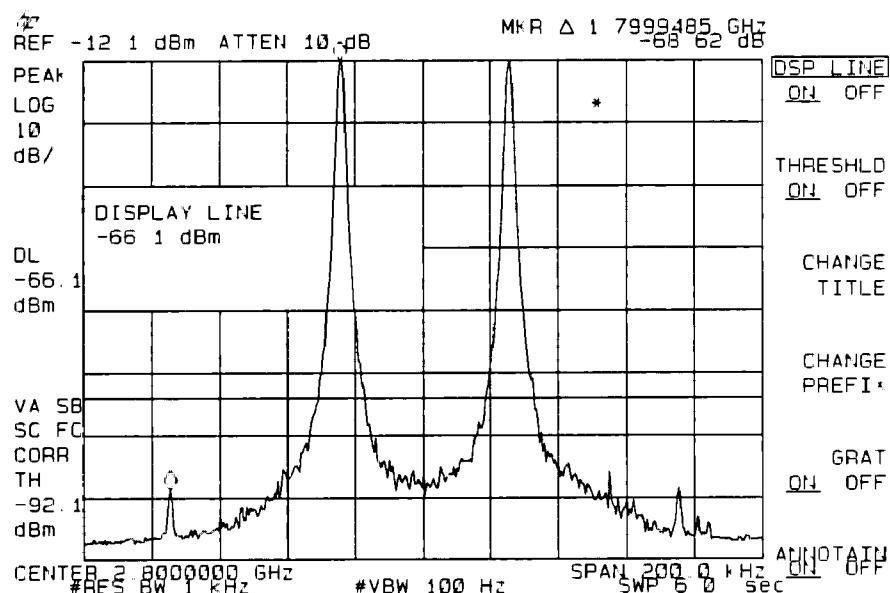

Figure 4-21. Third Order Intermodulation Distortion
40. Press **[PEAK SEARCH]**, **MARKER DELTA**. Press the following analyzer keys: **[DISPLAY]**, **DSP LINE ON OFF (ON)**. Set the display line to a value 54 dB below the current reference level setting.
41. The third order intermodulation distortion products should appear 50 kHz below the lower frequency signal and 50 kHz above the higher frequency signal. Their amplitude should be less than the display line. See Figure 4-21.
54. The third order intermodulation distortion products should appear 50 kHz below the lower frequency signal and 50 kHz above the higher frequency signal. Their amplitude should be less than the display line. See Figure 4-21.